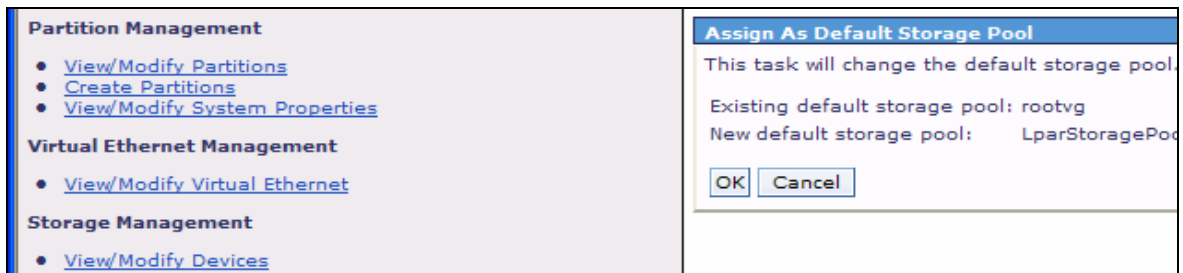

Figure 43. Verifying your decision to assign a default storage pool
- After you click **Assign as default storage pool** (in the previous step), the system prompts you to verify your decision (see Figure 43). Click **OK**. Then, press **Enter**.